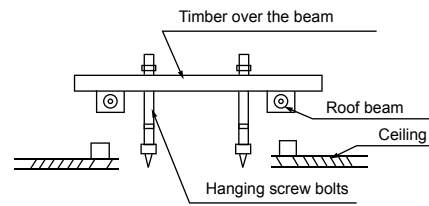

Fig.4-1
4.1 The units may be mounted vertically ,provided that the correct clearances for positioning are maintained. (Refer to Fig. 4-1)